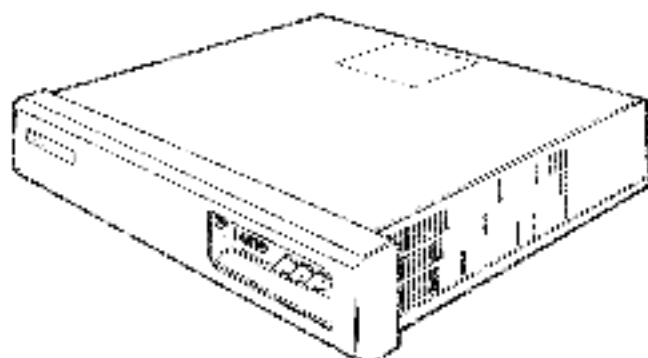

Figure 1-1 BA11-S Enclosure (PDP-11/23 PLUS system only)
| BA11-SFig. 1-1         | KDF11-BA      | PDP-11/23 PLUS | Appendix B              |
- The enclosure. A PDP-11/23 PLUS is mounted in a RA11-S enclosure. The MicroPDP-11/23, MicroPDP-11/73, and MicroPDP 11/83 systems are mounted in RA23-A or RA123-A enclosure (Figures 1-1 through 1-3).